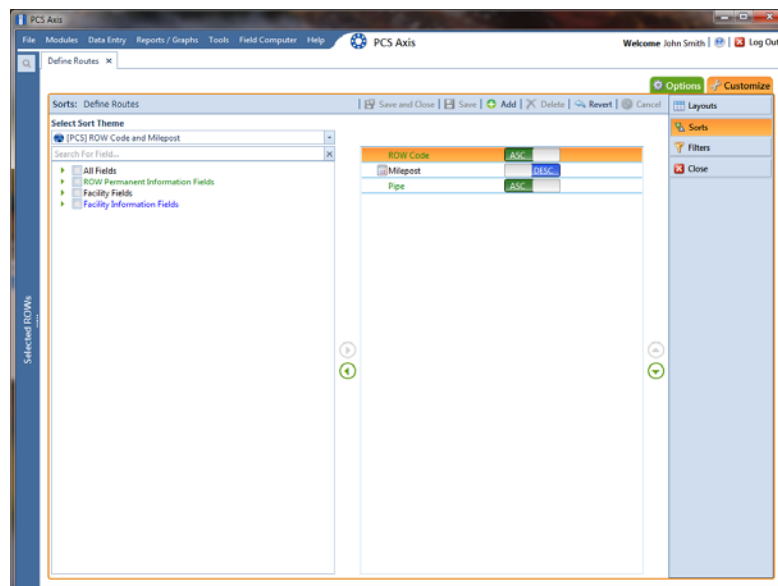

Figure 8-48. Sorts
- 3 Click the **Customize** tab , then the **Sorts** button  to open the *Sorts* page (Figure 8-48, page 404).